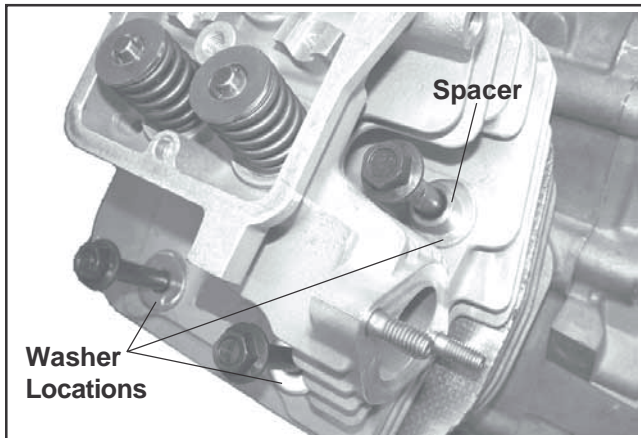

Figure 10-48. Washers and Spacer Locations.
3. Install the cylinder head. Make sure the head is flat on the gasket and dowel pins. Install a flat washer on the screws in **locations 1 and 3**. Install the spacer followed by a flat washer on the screw in **location 5**. See Figures 10-48 and 10-50. Start the five hex flange screws.